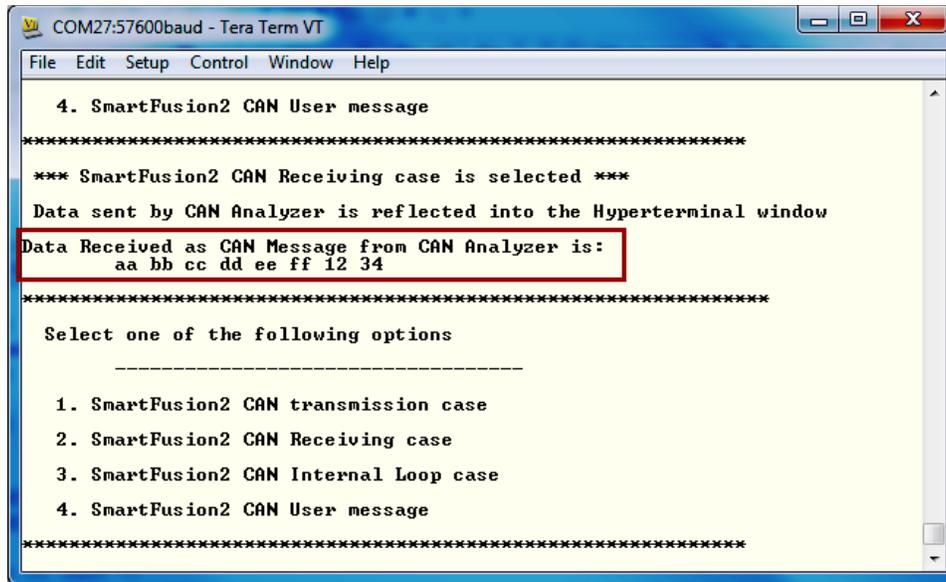

Figure 35 • Sent Message
- Enter **2** in the HyperTerminal. The CAN controller receives the sent message, and the same message is displayed in the HyperTerminal as shown in Figure 35. The message is sent to the CAN bus periodically as specified in **Cycle Time**.